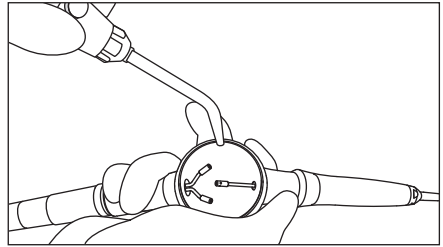

Fig. 7
- 3) Blow off the powder remaining in the powder case with air. (Fig. 7)